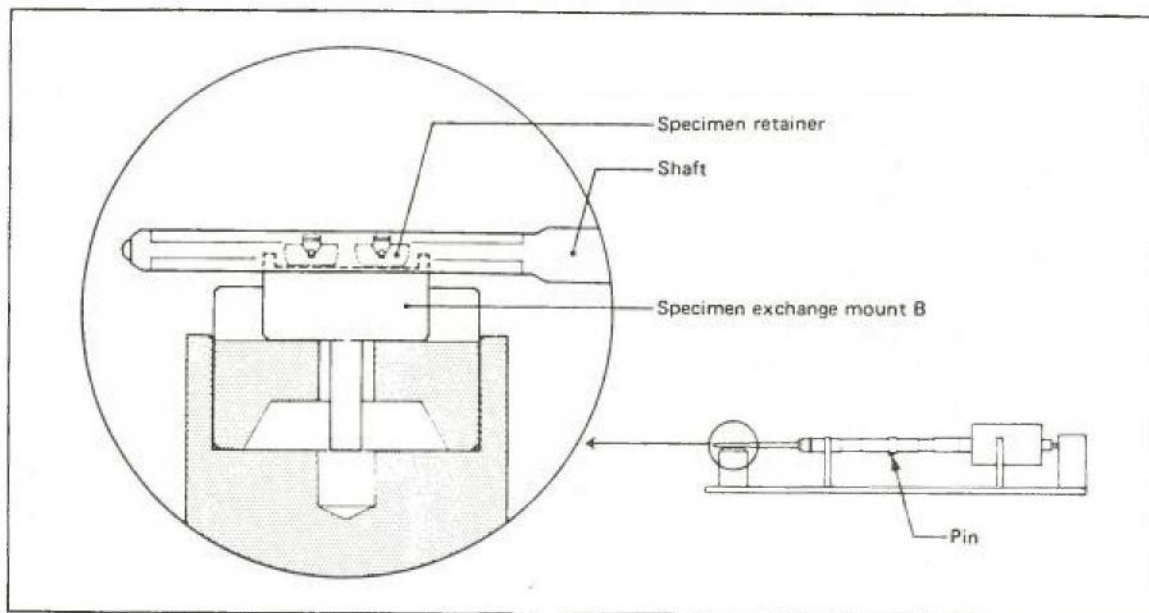

Fig. 4.4 Mounting the specimen holder on the holder stand
3. Place the specimen holder on the specimen holder stand with the holder shaft pin facing downward as shown in Fig. 4.4.
- c. Return the specimen holder to the stand (Fig. 4.4).